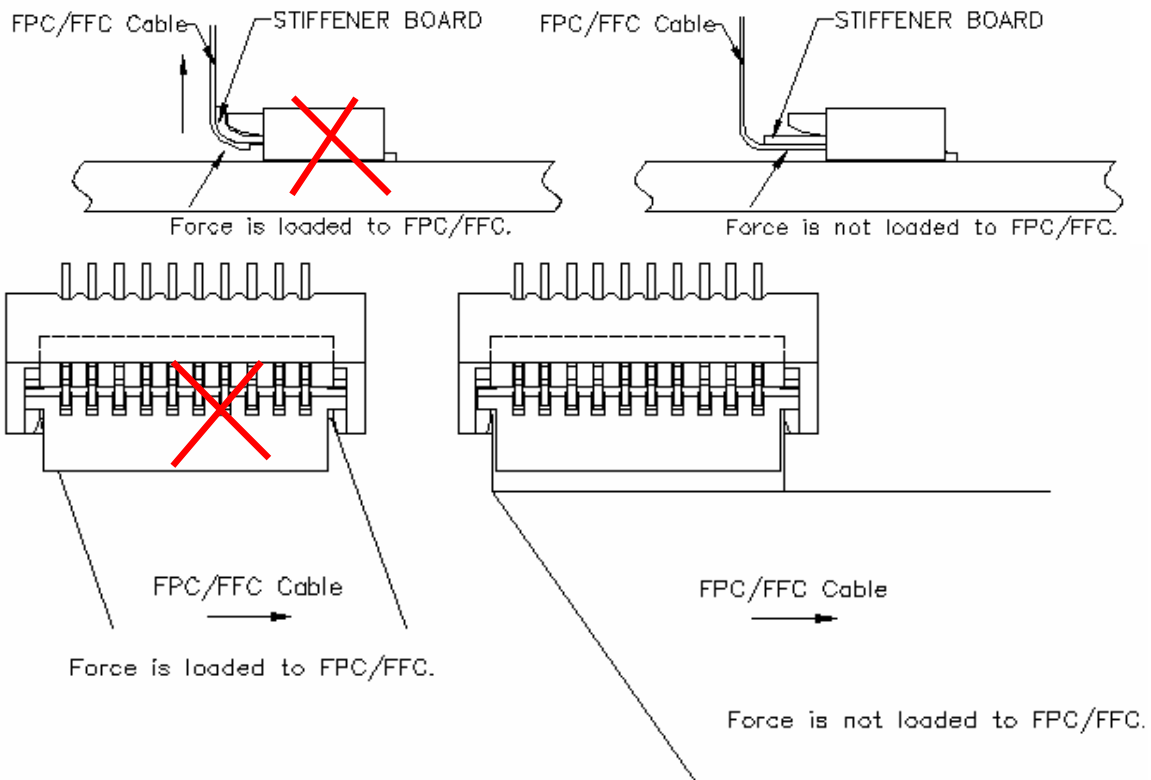

Figure 10.
- Do not apply any forces affecting soldered joints. Do not apply upward pull-force to the FPC/FFC close to the connector. (see figure 10).
- If necessary, please fix the FPC/FFC directly on the chassis. Also, please avoid pulling the FPC/FFC vertically or twisting the FPC back and force horizontally while it is inserted in the connector(see figure 10).
- Forming processing is conducted to FPC so as not to load force to connector. (see figure 10).